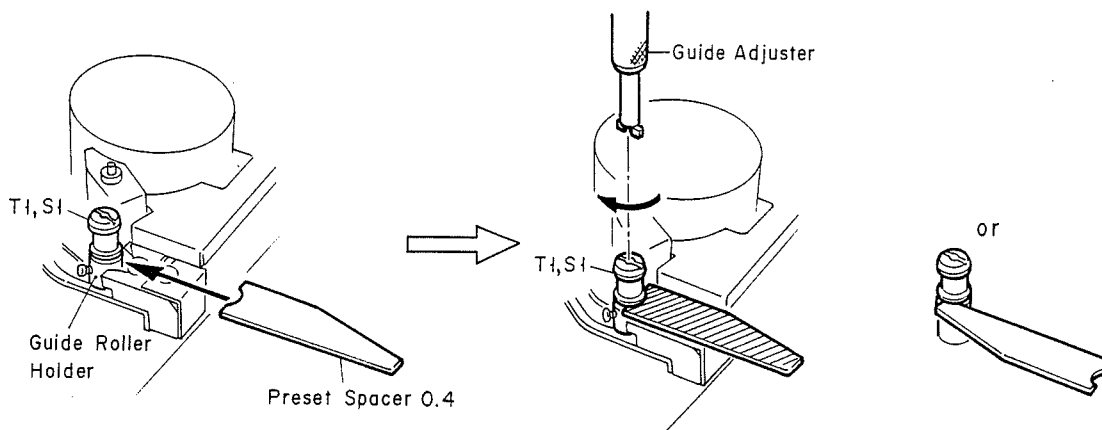

Fig. 6.18 S1, T1 Height Preset
5. Insert a Preset Spacer 0.4 between the lower flange of T1/S1 and the Guide Roller as shown in Fig. 6.18.